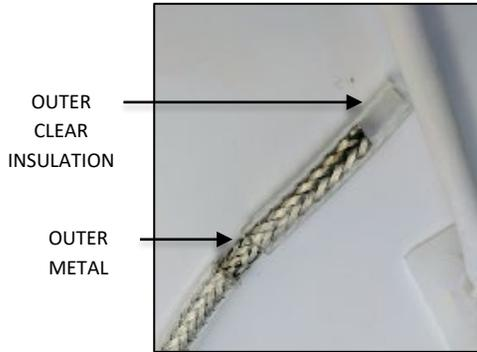
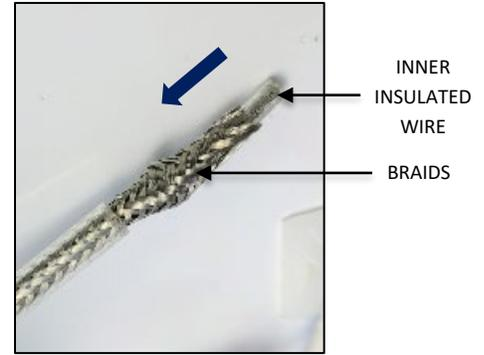

FIG. 15
FIG. 16
1. Strip off 1.00" of outer clear insulation exposing the outer metal braiding as shown in FIG. 15 below. **Be careful not to cut or damage the outer metal braiding.** Gently push braiding down to loosen the individual braids exposing the inner insulated wire as shown in FIG. 16 below.